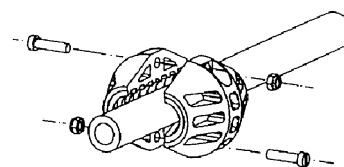

Fig. 7
- Fix the hose stop to the end of the outlet hose (Fig. 7).
- Remove the hose stopper (Fig. 7).